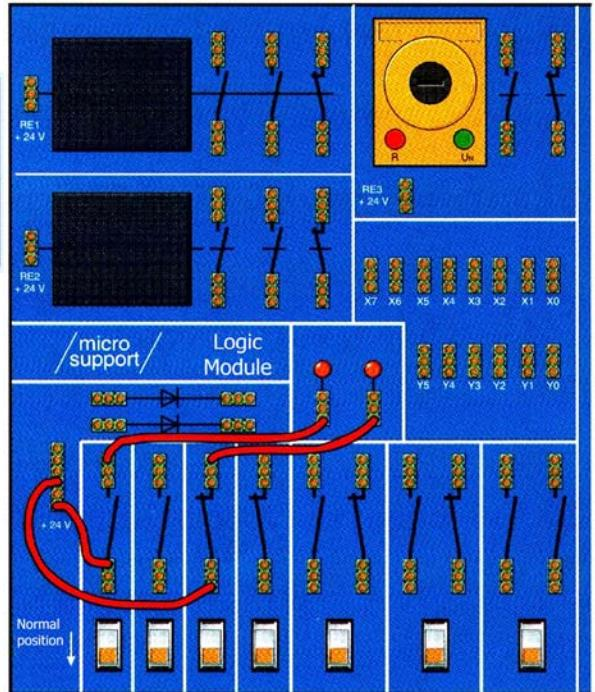

*Fig. 2.3a A NOT function with two switches*
- Connect up a circuit as shown in Fig. 2.3a and study a NOT function.